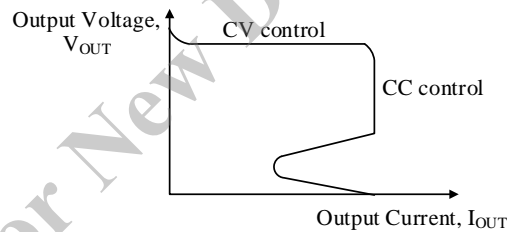

Figure 10-9. CV/CC Characteristic
10.5. Constant Current (CC) Operation
When the output current increases, the drain current of the power MOSFET is limited to the value set by the current detection resistor, R_{CS} . When the limited state continues for the continues for the OLP Delay Time, $t_{OLP(ON)} = 93.1 \text{ ms}$, or more, the IC switches to the constant current (CC) control from the constant voltage (CV) control. Figure 10-9 shows the CV/CC Characteristics.